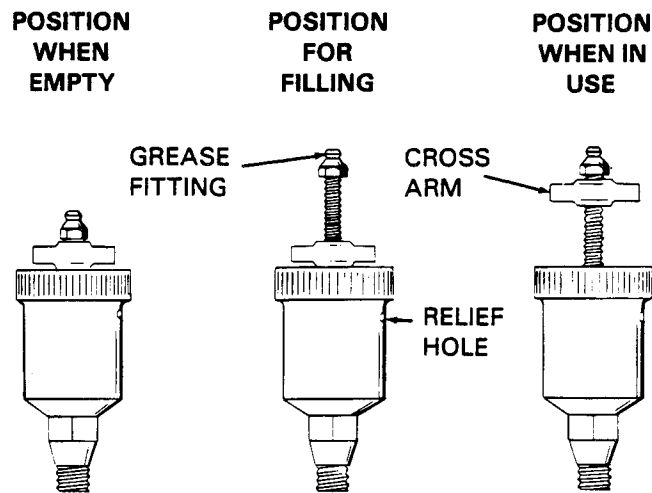

Figure 4. Automatic Lubricating Grease Cup
Before removing the impeller, turn the cross arm on the seal grease cup (7) clockwise until it rest against the cover (see Figure 4, in **LUBRICATION**). This will prevent the grease in the cup from escaping after the impeller is removed.
Fill the grease cup through the grease fitting with a good grade of No. 2 lithium base grease until grease escapes from the relief hole. Turn the grease cup arm counterclockwise until it is at the top of the stem; this will release the spring to apply grease to the seal (see Figure 4).